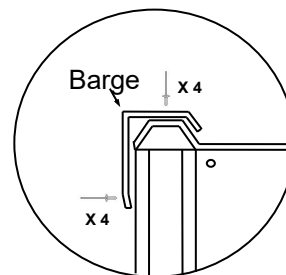

fig.3
- Position the first Roof Sheet so that the top of the sheet is at the centre of the Ridge Beam and the side of the sheet over hangs the end of the Ridge Beam (fig .3). Using 1 x 50mm Clout, predrill and nail through the rib into the top corner. Repeat above and nail the lower corner ensuring 15mm overhang.
- Rivet the Barge Flashings to the roof and the side wall, using four rivets on top of barge and four into the side (fig.3).